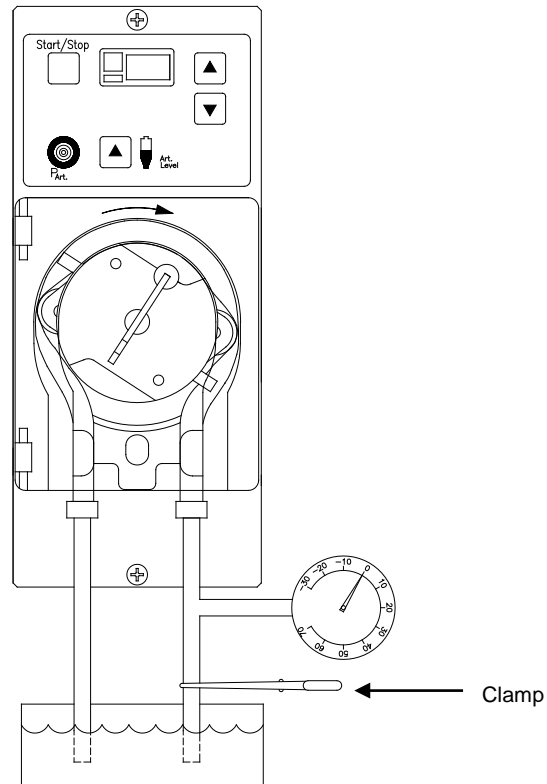

Figure 8. Blood Pump Rotor Occlusion Test
- Connect a pressure gauge to the bloodline in the pump (See Figure 8) and allow the rotor to pull up $37^{\circ}\text{C} \pm 1.5^{\circ}\text{C}$ water. Let this fluid flow past the pressure gauge long enough to clear out air.
- With the pump running at 600ml/min, clamp the outlet so that the pressure gauge is between the output of the pump and the clamp (See Figure 8). The peak pressure on the gauge must be between 25 and 35psi. If the peak pressure is out of range, replace the blood pump rotor springs (part number 650174).